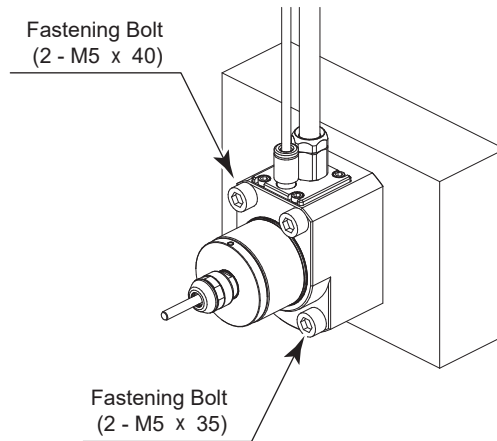

Fig. 18
- (1) Insert the flange type motor spindle's main housing area into the fixed base holder of the machine tool.
- (2) Secure the motor spindle through the mounting holes on the flange using the hexagon socket bolts (M5 x 35: 2pcs, M5 x 40: 2pcs). Refer to Fig. 18.